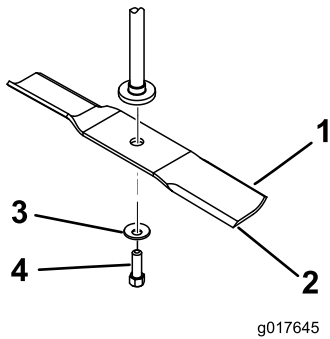

Figure 53
Hold the blade end using a rag or thickly-padded glove. Remove the blade bolt, curved washer, and blade from the spindle shaft (Figure 53).
- Install the blade onto the spindle shaft (Figure 53).
- Install the curved washer (cupped side toward the blade) and the blade bolt (Figure 53).